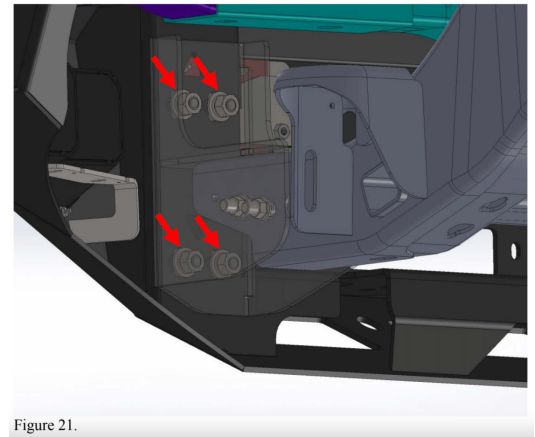

Figure 21.
21. Place the 4x 1/2" bolt strips in the bumper with assistance, hold the bumper up to the brackets and fasten it in place with the provided 1/2" washers and hex nuts. Figure 21.